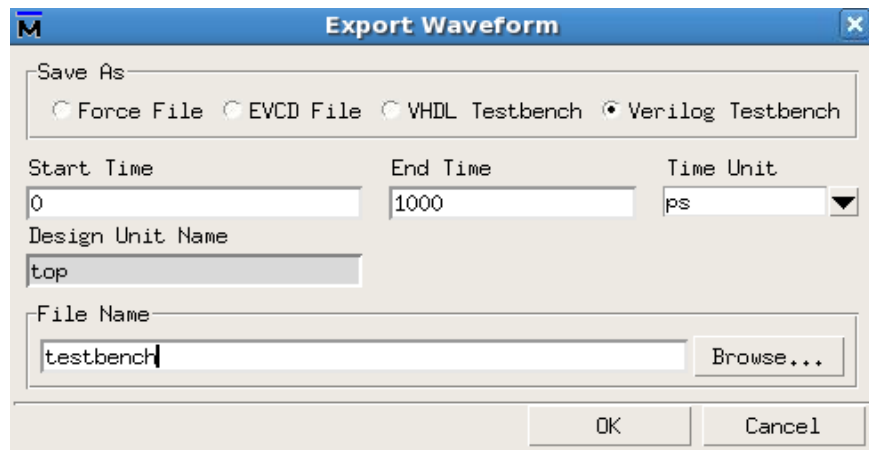

Figure 9
- b. Select VHDL or Verilog testbench and give the filename as shown is Figure 9 below.